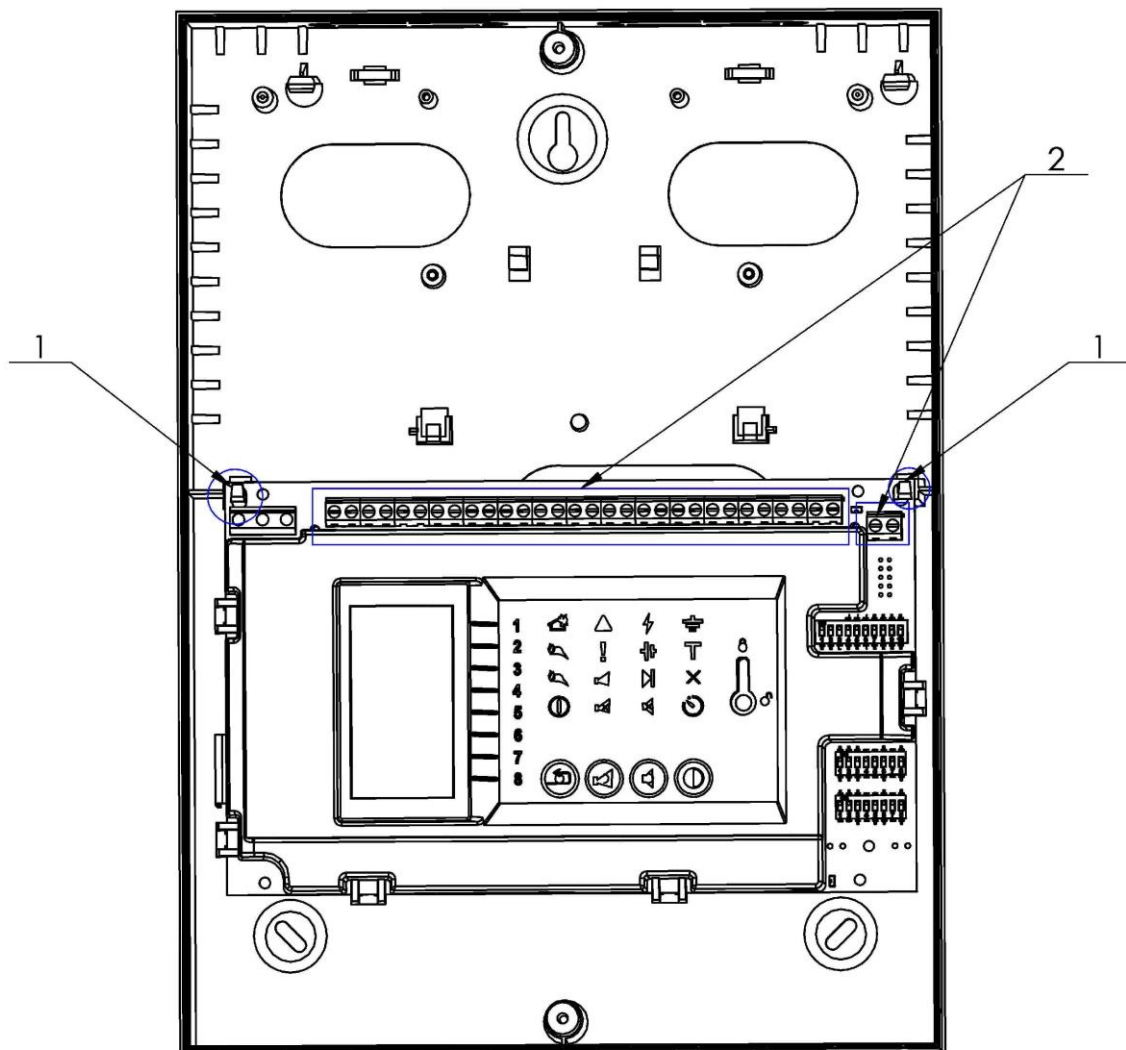

Fig.11
- For easy wires installation in the PCB connectors, the interface board is mounted to the bottom holders, as illustrated on fig.11, pos.1.
- The signal cable lines, dedicated for the conventional zones and fire protection and fire alarm equipment, are fit to the PCB connectors in the main interface board (fig.11, pos. 2), without being fully tighten. The mains cable is not connected in the PCB connector on this stage, but later on when the interface board is in its initial position (refer p.4.1.8).